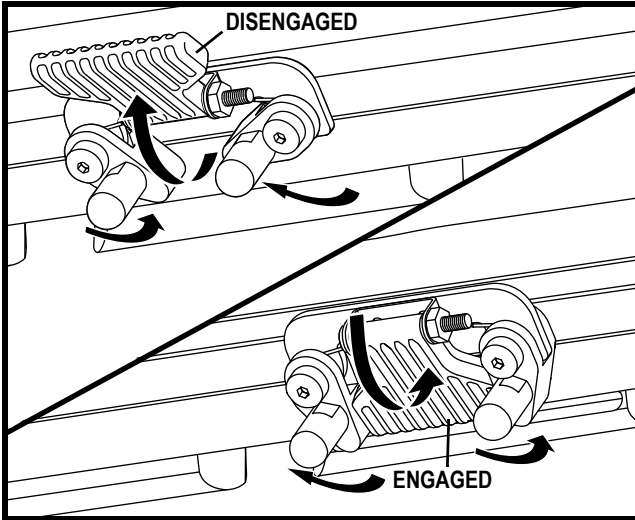

Figure 15. Seat Latch Safety
3. Flip down the seat latch safety. See figure 15.